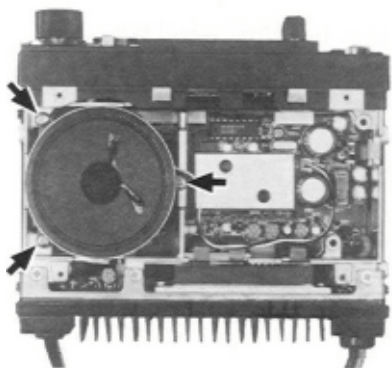

Figure 2.
- (2) Lift the loudspeaker out of its holder, and then remove the three screws in the arms of the holder, and lift it out of the chassis (Figure 2).